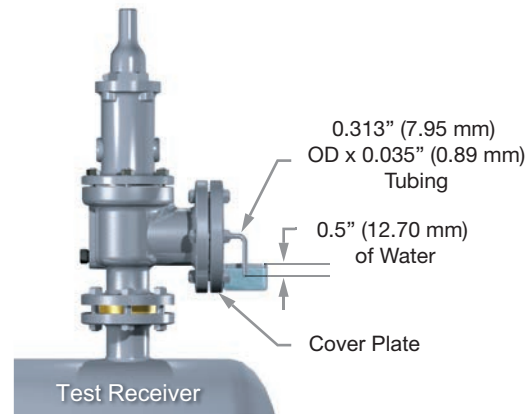

Figure 40: Typical Test Arrangement
1. With the valve mounted vertically (see Figure 40), determine the leakage rate, in bubbles per minute, with pressure at the SRV inlet held at 90% of the set pressure immediately after popping. For valves set at 50 psig (3.45 barg) or below, hold pressure at 5 psig (0.34 barg) below set point. The test pressure shall be applied for a minimum of 1 minute for valves on inlet sizes through 2" (50.8 mm); 2 minutes for sizes 2.5" (63.5 mm), 3" (76.2 mm) and 4" (101.6 mm), and 5 minutes for the 6" (152.4 mm), 8" (203.2 mm), 10"
Consolidated SRVs are furnished, when so ordered, with packed or plain lifting levers for hand-popping or with an air-operated lifting device for remote control (see Figures 40 through 42).